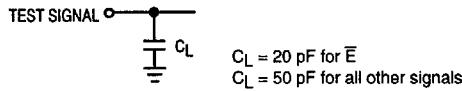

Figure 6-2. Signal Loading for Timing Specifications Unless Otherwise Specified
- The three-state condition is when the device is not actively driving data. Refer to Figure 6-2, Signal Loading for Timing Specifications Unless Otherwise Specified and Figure 6-5, Test Point Levels for Three-State to Driven Time Measurements for detailed measurement information.